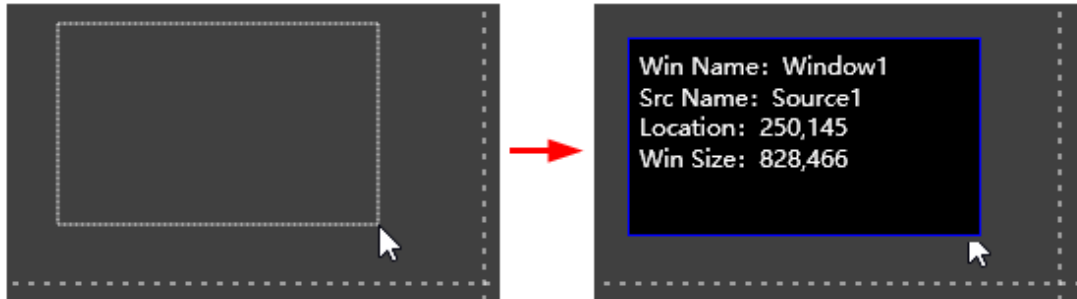

Figure 3.4.41 Add a Monitor Window
- **Element with any size:** click the left mouse button to decide the starting coordinate of the top left corner, hold the button down and draw a rectangle, then release the left mouse button, it will add a monitor window, as shown in **Figure 3.4.41**: